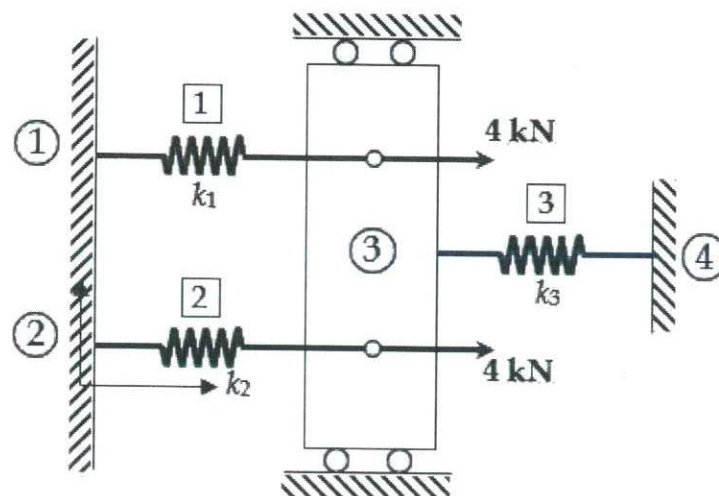

Fig. Q3
- c) Fig. Q3 shows a one dimensional spring assembly. Element numbers are boxed and node numbers are circled. $k_1 = 300 \text{ kN/m}$, $k_2 = 200 \text{ kN/m}$ and $k_3 = 500 \text{ kN/m}$ and where k_1, k_2 and k_3 are stiffness of the spring element 1, 2 and 3, respectively.